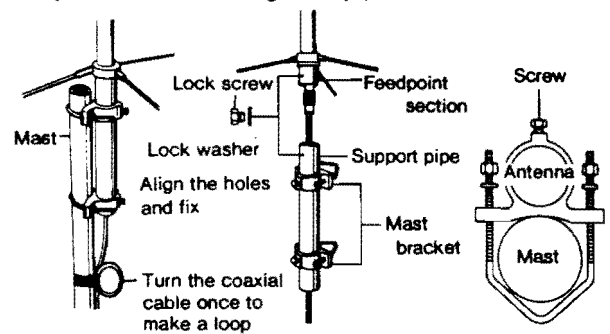

Fig. 2
9. Attach assembled antenna on a mast by taking whole balance into account as shown in Fig.2. Turn the coaxial cable once to make a loop at right below the antenna to escape excess load from the cable.